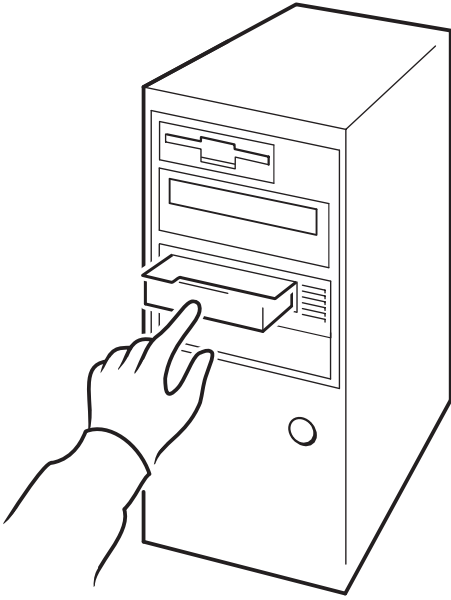

Figure 12a: using HP OBDR, step 1
- 1 Lift the cartridge door and insert the latest bootable cartridge in the tape drive (see Figure 12a). The cartridge must be written by a backup application that writes data to tape in CD-ROM format.